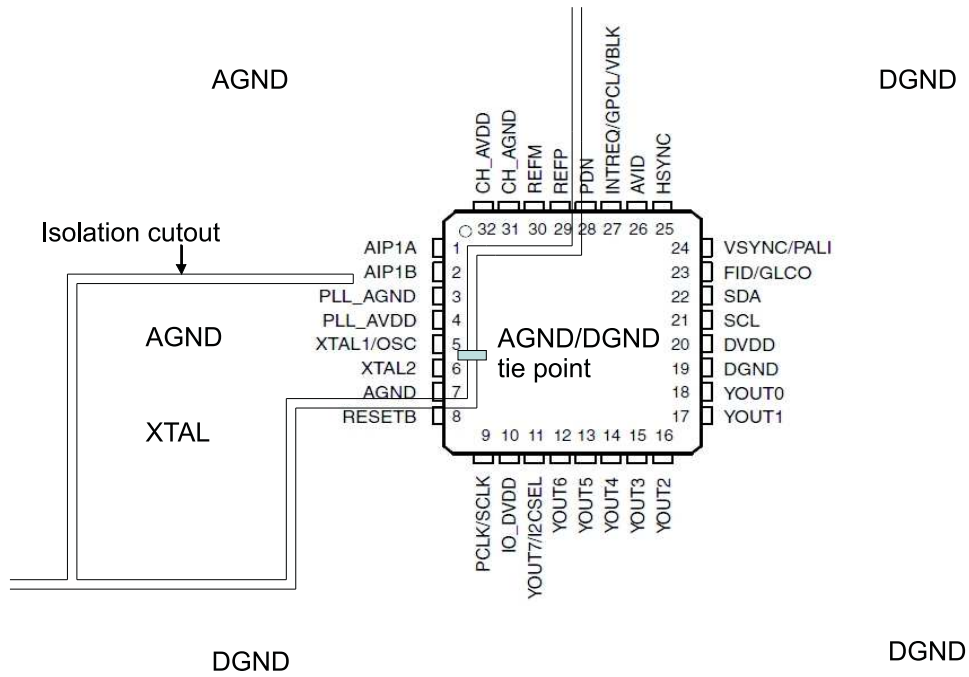

Figure 1. Split Ground Planes (TQFP Package)
- If a split ground plane (AGND/DGND) approach is used for board layout, Figure 1 shows the recommendation for the split relative to device pins. If split ground plane approach is not used, a cutout/slot should still be placed around 27-MHz crystal and associated circuitry as depicted in Figure 1 for improved isolation.